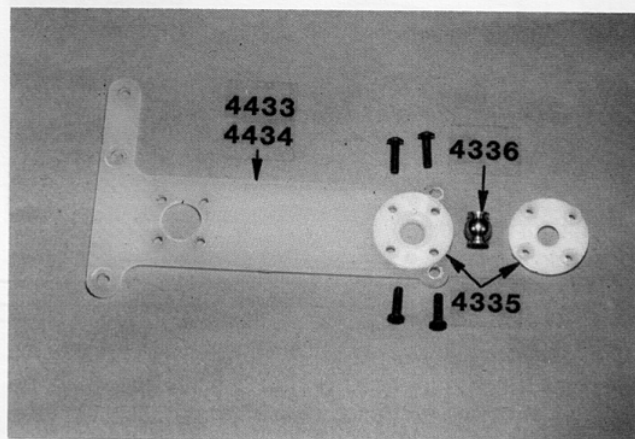

Fig. 12
□ **Figs. 12 & 12a**—From Bag #3 take the #4336 steel pivot ball and the #4335 plastic pivot socket, and place the ball in one side of the socket, and then place the other half of the socket onto the ball and align all four screw mounting holes. Mount the ball socket assembly onto the forward end of the #4433 or 4434 T-bar where shown. Install the four screws, but be careful not to overtighten. If this ball is tight in the plastic socket, it's okay, it isn't supposed to swivel.